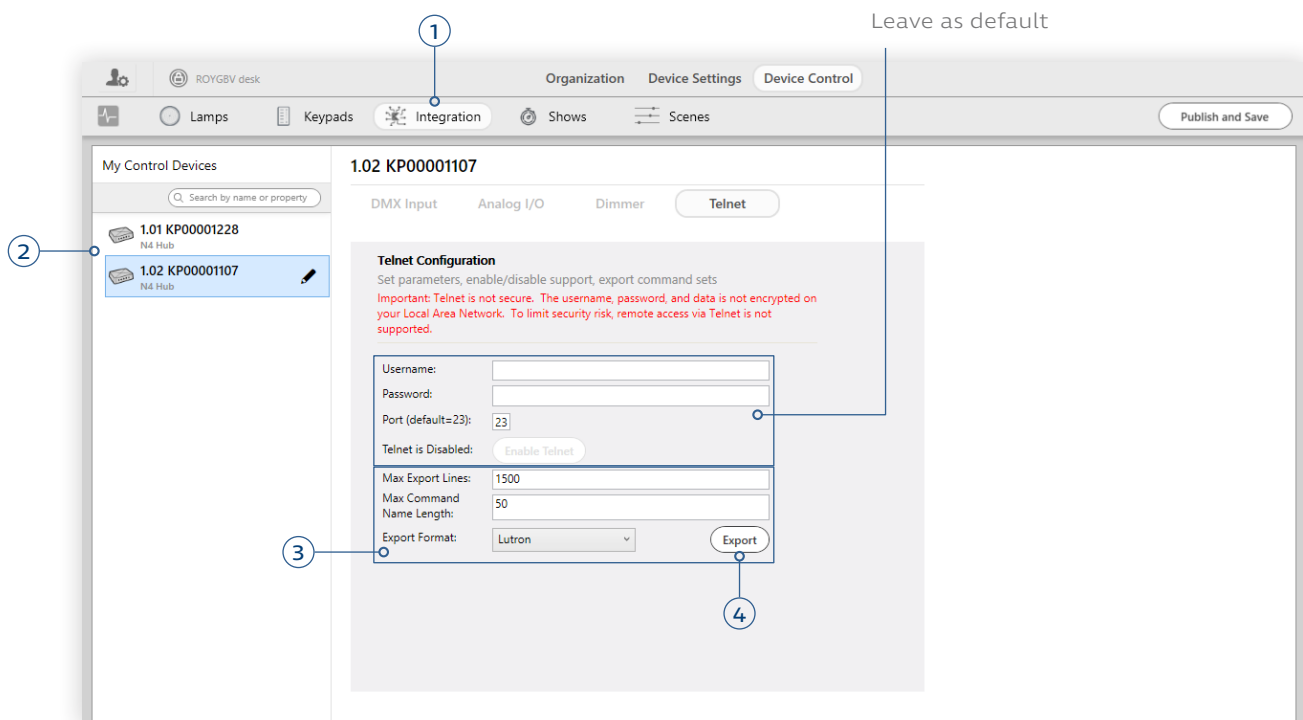

fig. 163
- 3 **In the Telnet Configuration pane, confirm that the Max Export Lines, Max Command Name Length, and Export Format fields look like fig. 163.**